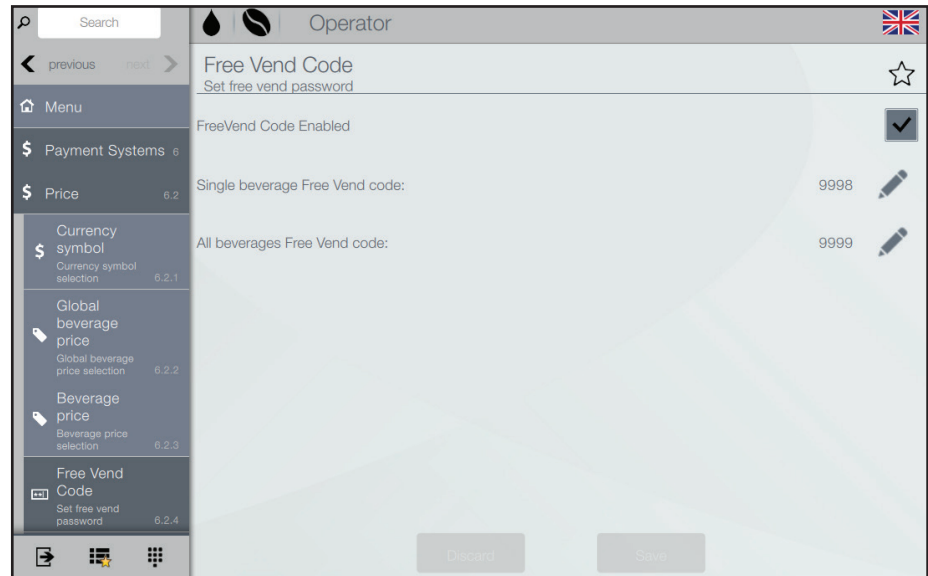

Fig. 7.1 - Free vend code
- Tap on menu items 6 > 6.2 > 6.2.4
- Enable/disable/modify the Free Vend Code (fig. 7.1)